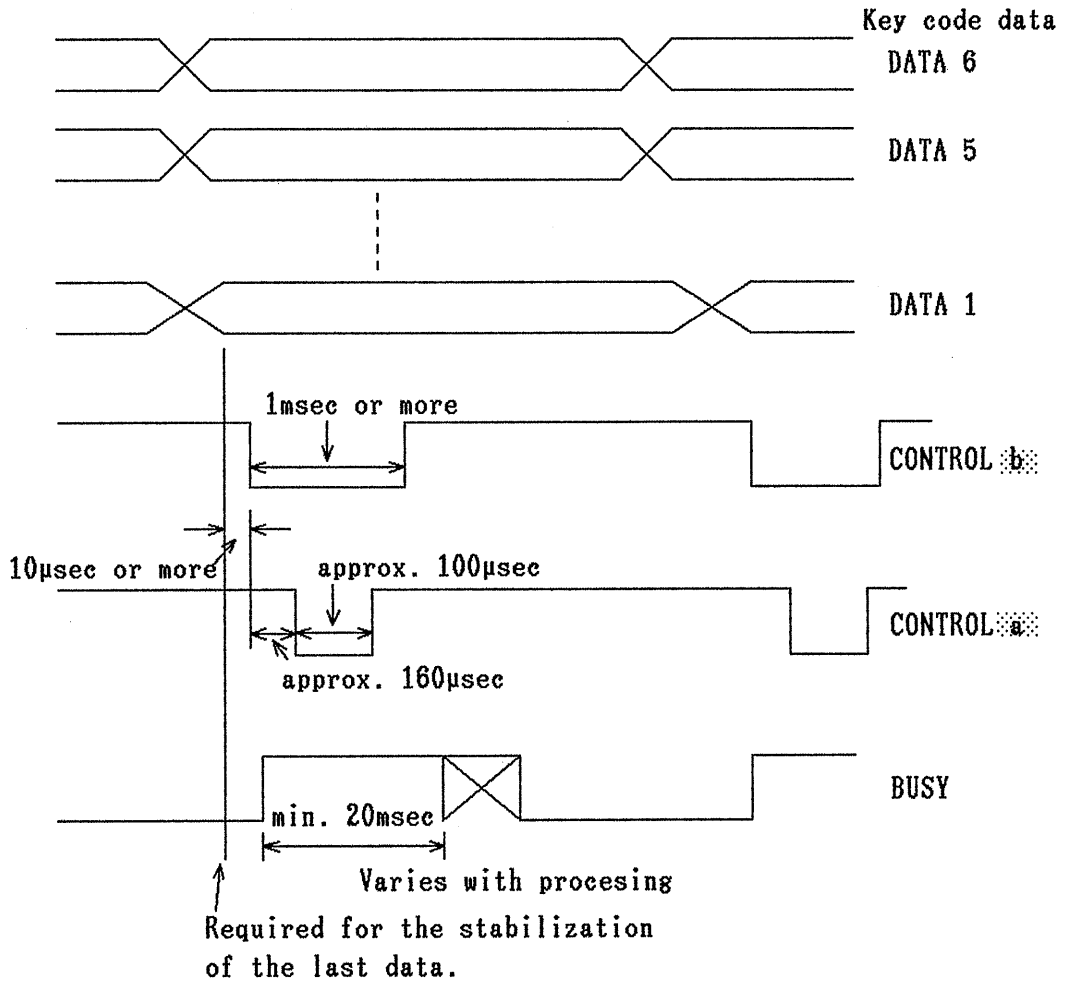

Figure 5-2
Then, set CONTROL **b** to "0" for 1msec or longer as shown in Figure 5-2.
- 2) Send CONTROL  which is set to "0" for 1 msec or longer as shown in Figure 5-2 (input data timing).